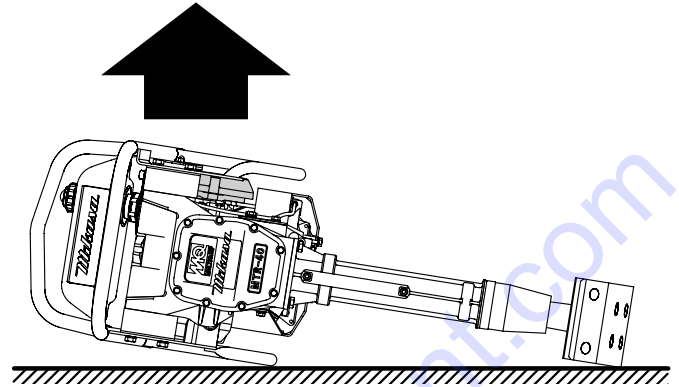

Figure 22. Transporting Rammer
4. Next, position the machine (Figure 22) so that the air cleaner will be facing up.